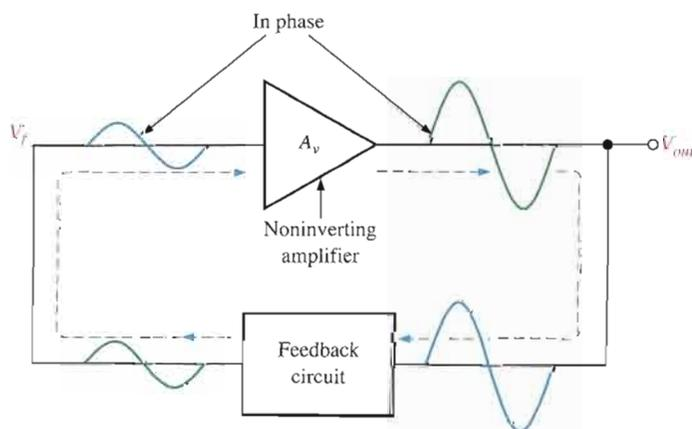

FIGURE 16–3
**Positive feedback** is characterized by the condition wherein an in-phase portion of the output voltage of an amplifier is fed back to the input with no net phase shift, resulting in a reinforcement of the output signal. This basic idea is illustrated in Figure 16–3. As you can see, the in-phase feedback voltage,  $V_f$ , is amplified to produce the output voltage, which in turn produces the feedback voltage. That is, a loop is created in which the signal sustains itself and a continuous sinusoidal output is produced. This phenomenon is called *oscillation*.
Two conditions, illustrated in Figure 16–4, are required for a sustained state of oscillation:
► FIGURE 16–4
So far, you have seen what it takes for an oscillator to produce a continuous sinusoidal output. Now let's examine the requirements for the oscillation to start when the dc supply voltage is first turned on. As you know, the unity-gain condition must be met for oscillation to be sustained. For oscillation to *begin*, the voltage gain around the positive feedback loop must be greater than 1 so that the amplitude of the output can build up to a desired level. The gain must then decrease to 1 so that the output stays at the desired level and oscillation is sustained. Ways that certain amplifiers achieve this reduction in gain after start-up are discussed in later sections of this chapter. The voltage gain conditions for both starting and sustaining oscillation are illustrated in Figure 16–5.